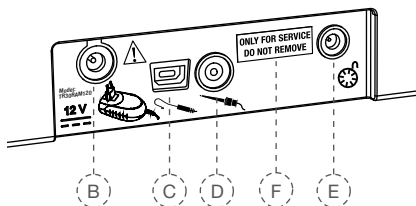

Fig. 3 Rear Connections
The USB port (Fig. 3, F) is used to install software updates or perform maintenance on the device. This port is only to be used by authorized service personnel and is covered by a label reading "ONLY FOR SERVICE DO NOT REMOVE" on delivery. The label may only be removed by service personnel.
3. Connect the charger cable into connection socket (Fig. 3, B) at the back of the device.
8. Insert the foot pedal cable into connection socket (Fig. 3, E) at the back of the central unit.
10. Insert the plug of the lip clip cable into connection socket (Fig. 3, C) at the back of the central unit.
12. Insert the plug of the file clip cable into connection socket (Fig. 3, D) at the back of the central unit.